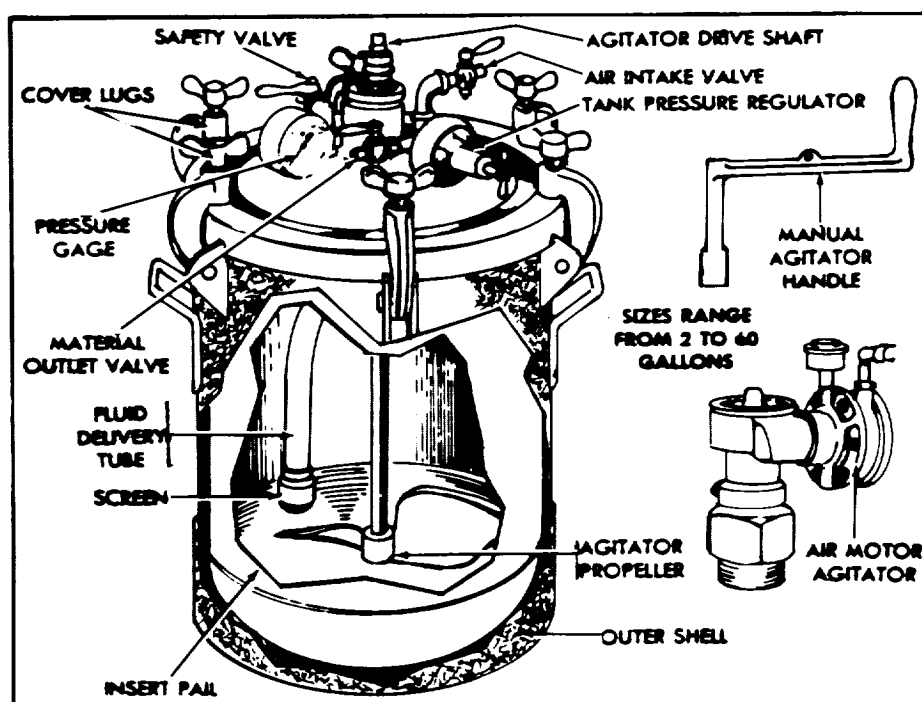

Figure 5-11. Pressure-Feed Paint Tank
c. Pressure Feed Type. Shut off the air supply to the pressure tank (see figure 5-11), release pressure in the tank, and blow back fluid as in the suction cup equipment (paragraph 5-6b above). Empty and clean the pressure tank. Place a container of clean naphtha or thinner inside the pressure tank and install the lid, making sure that the fluid delivery tubes (see figure 5-11) are immersed in the container of naphtha or thinner. Apply pressure and operate the spray gun to clean the hose and spray equipment. Disconnect the fluid hose from the gun and pressure tank and allow the hose to dry thoroughly before reconnecting. Clean the air cap and fluid tip as in the suction-cup equipment (paragraph 5-6b above).